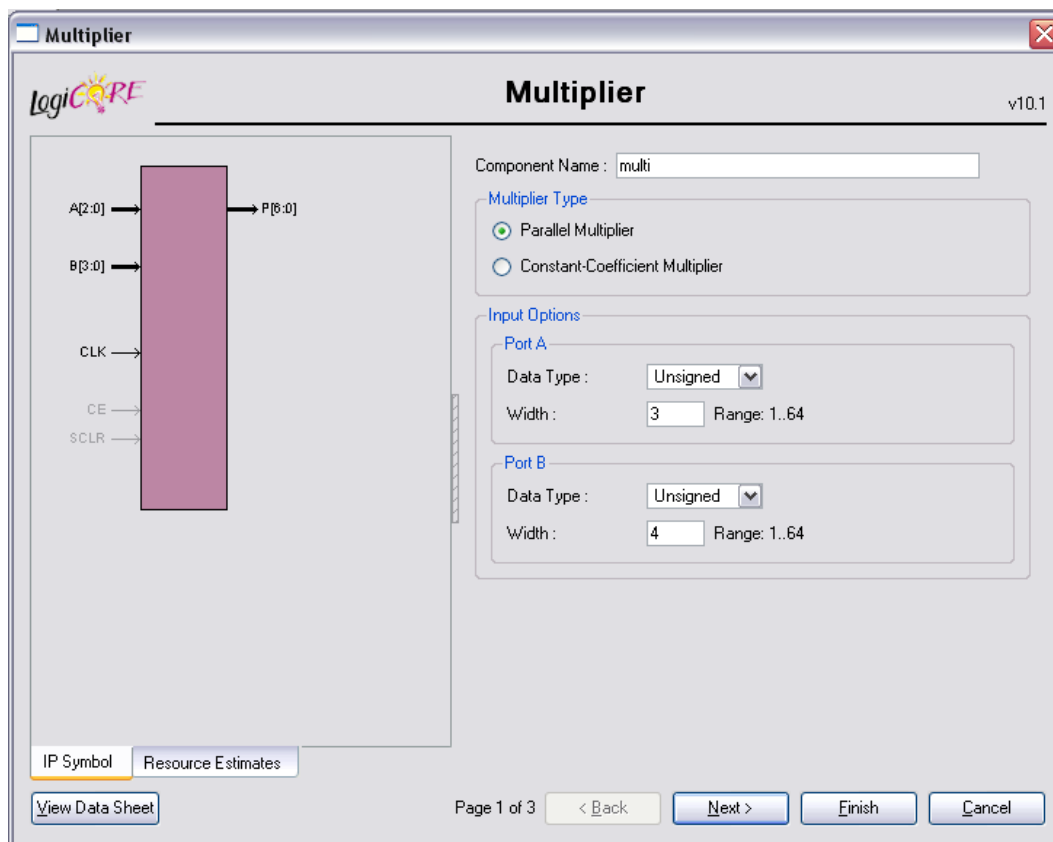

Fig. 2. First page of the LogiCore Window
3. After a few seconds a new window (*LogiCore*) should pop up. Select the options to match those in figure. 2. Select **Finish** on figure. 2. The window will disappear and will have created a Multiplier .